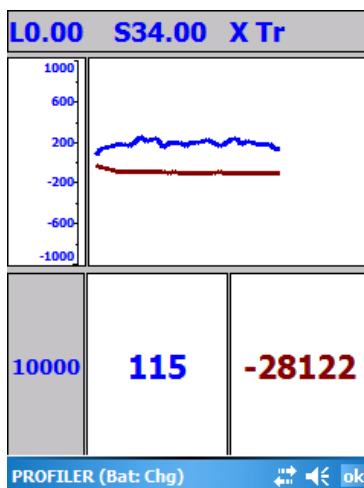
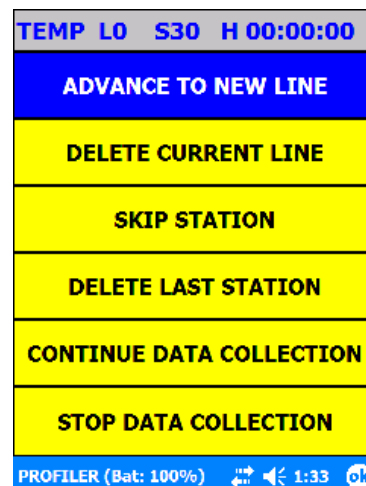

Figure 60: Line Graph with Alphanumeric data.
Figure 63: Run-time menu.
2. When data collection is first initiated, the data display field will remain blank until the user presses the **Enter** button on the PDA keypad, or the **Start** button on the key fob. The system will now begin data collection. This pause before the start of data collection only occurs on the first line of a survey. Once the first line has been collected, data collection will begin immediately after the user restarts data acquisition with the Continue Data Collection command in the Run Time menu (Figure 63). Figure 60 illustrates the Data Collection Data display. In this case, the user has selected a Line Graph display along with an alphanumeric data display.
In order to skip a station due to the presence of a surface obstacle, or to skip a transect due to the presence of a large surface feature, the user should select **OK** from the Data display or Positioning display, or press **OK** on the PDA key pad (or depress the RF Start/Stop key fob key twice). Data acquisition will be paused, and the Run Time menu will be displayed (Figure 63).